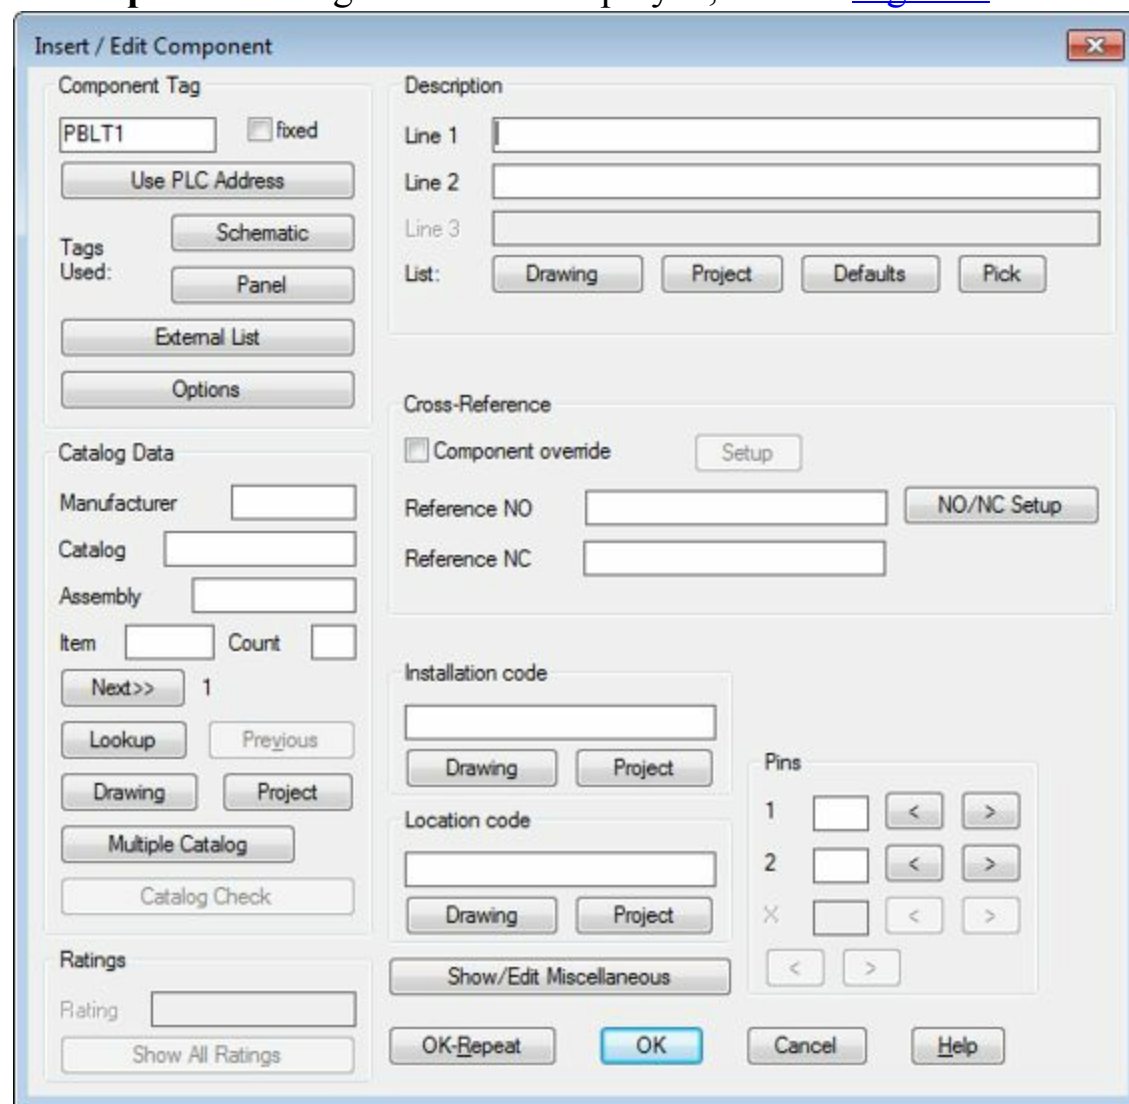

Figure-4. Insert Edit Component dialog box
- Click in the drawing area to place the component symbol at desired place. The **Insert/Edit Component** dialog box will be displayed; refer to Figure-4.